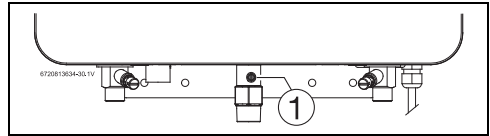

Fig. 34 Gas pressure test port
- ▶ Locate the inlet gas pressure test port (see Fig.34).
- ▶ Loosen the screw inside test port fitting (do not remove) and connect the manometer tube to the test port (see Fig. 34).